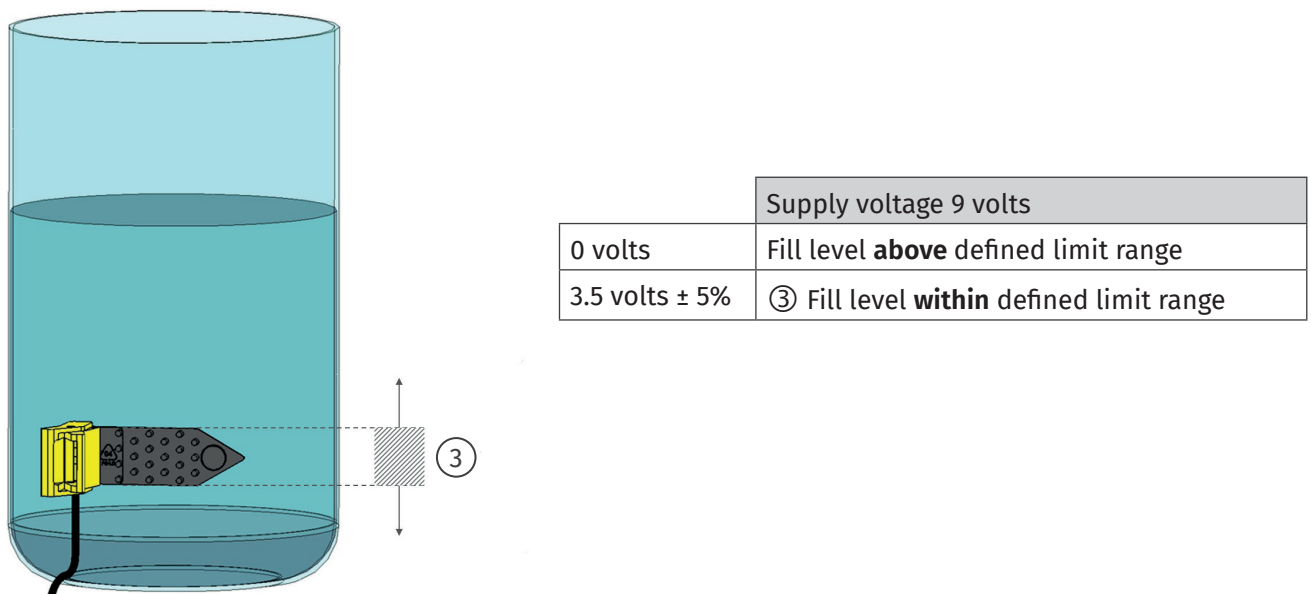

Fig. 4: Example of how to position the LSP on a reservoir.
The signal is emitted as an analog voltage signal. When the fill level is above the limit set, a signal of 0 volts will be emitted. If the fill level is within the limit range ③ or underneath, a voltage of 3.5 volts \pm 5% will be emitted (fig. 4).